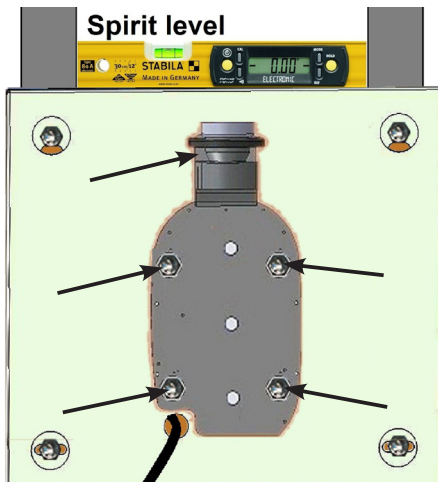

Figure 15: Fix base unit plate on optional plate with 5 Hex head bolts.
- Fix the base unit plate on the optional plate fixed on the wall with five M10x22 Hex head bolts with M10 washers using 17mm box spanner as shown in Figure 15 . Ensure the level of plate and tighten the screws.